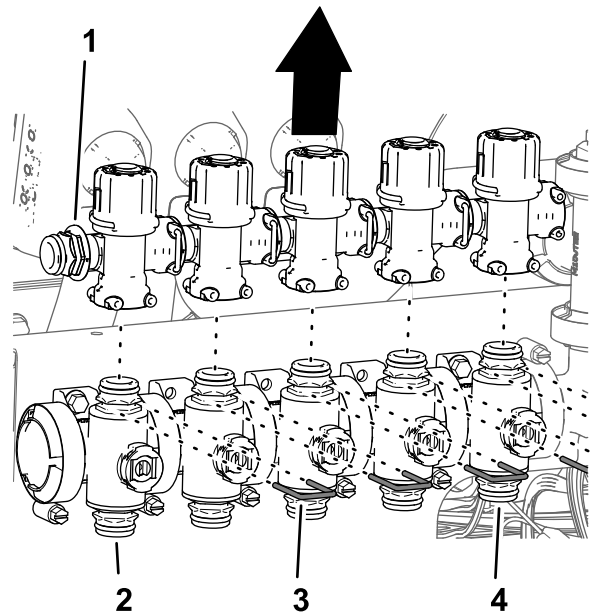

Figure 101
- Remove the retainers that secure the bypass valves to nozzle valves 1 through 7 (Figure 101).
- Lift the bypass valves from the nozzle valves 1 through 5 (Figure 101).